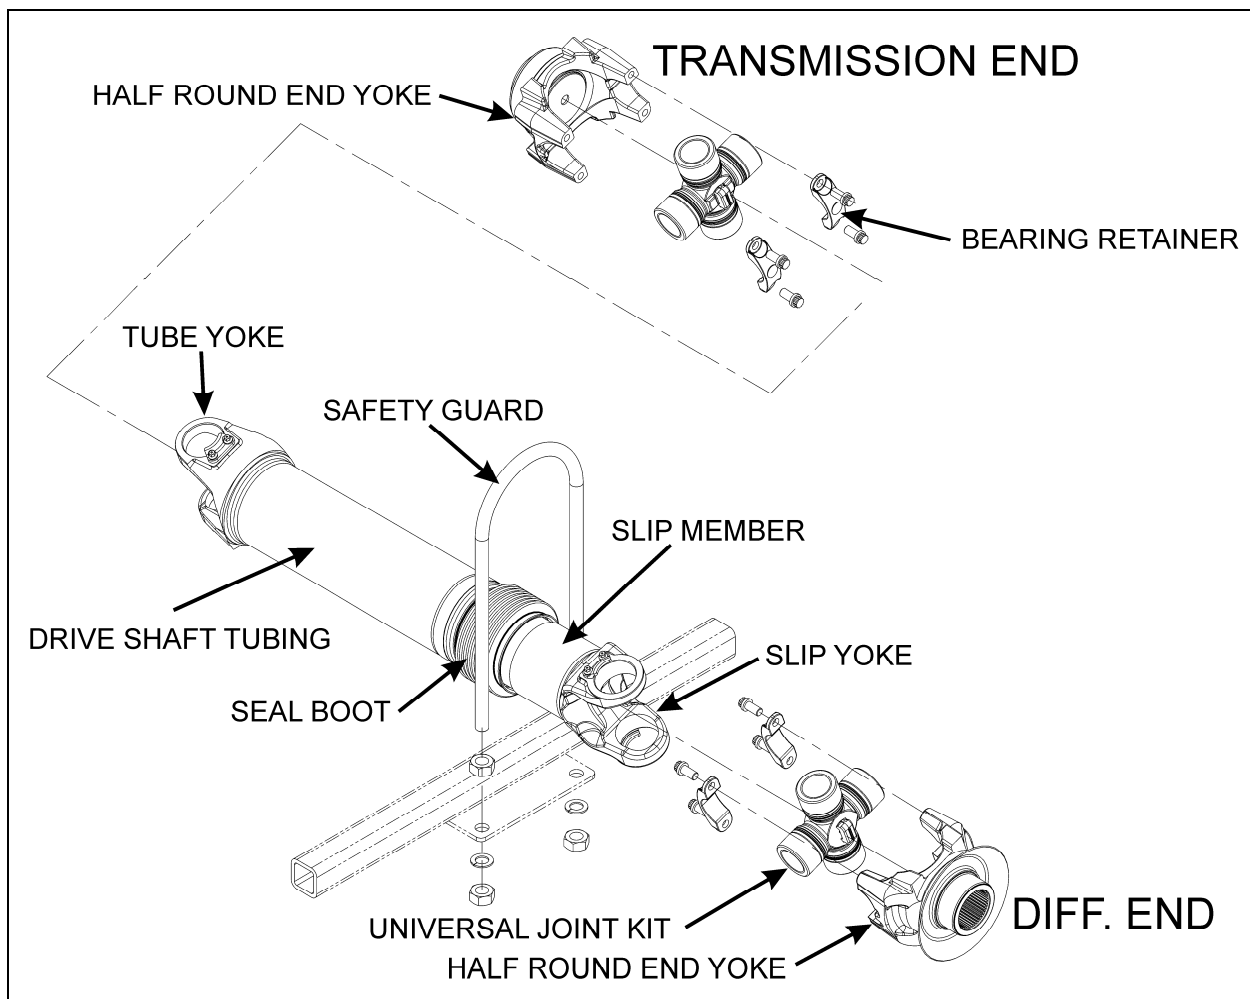

FIGURE 1: PROPELLER SHAFT ASSEMBLY
The propeller shaft transmits power from the transmission to the differential (Fig. 1). Refer to paragraph "6. SPECIFICATIONS" at the end of this section for propeller shaft length. The propeller shaft is "Dana Spicer Life Series SPL250" type with tubular shafts. It is provided with two heavy-duty universal joints (Fig. 1).
- Screw bolts to the specified torque (Fig. 1).